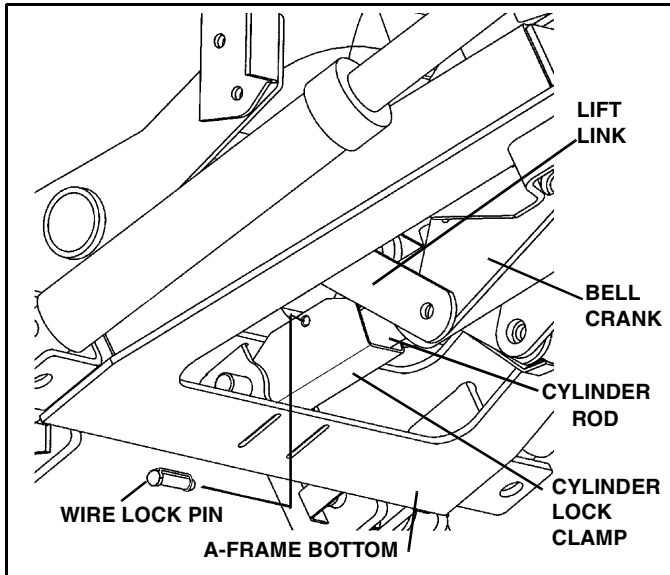

Figure 1-10
5. Position the cylinder lock clamp around the exposed (chrome) portion of the lift cylinder with the open side of the cylinder lock up. Install the pin. (See Figure 1-10)